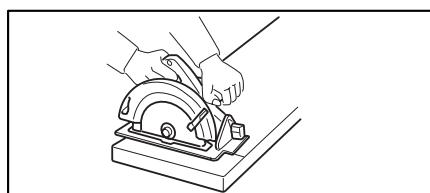
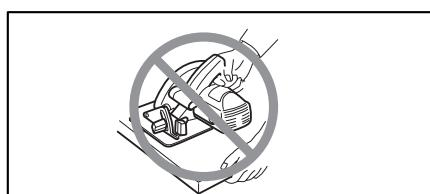

Fig. 5
Fig. 6
16. Place the wider portion of the saw base on that part of the workpiece which is solidly supported, not on the section that will fall off when the cut is made. As examples, Fig. 5 illustrates the RIGHT way to cut off the end of a board, and Fig. 6 the WRONG way. If the workpiece is short or small, clamp it down. DO NOT TRY TO HOLD SHORT PIECES BY HAND!